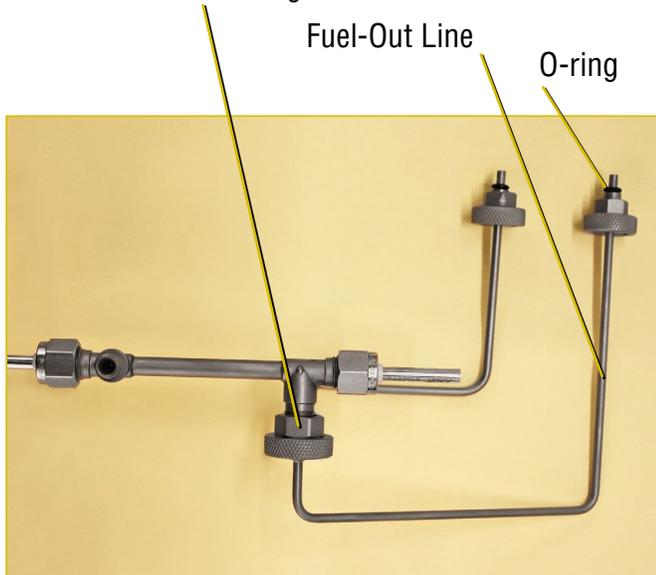

Figure 18 Assembled Test Section
9. Attach the large end of the fuel-out line to the DP filter housing [Figure 18]. Finger tighten.